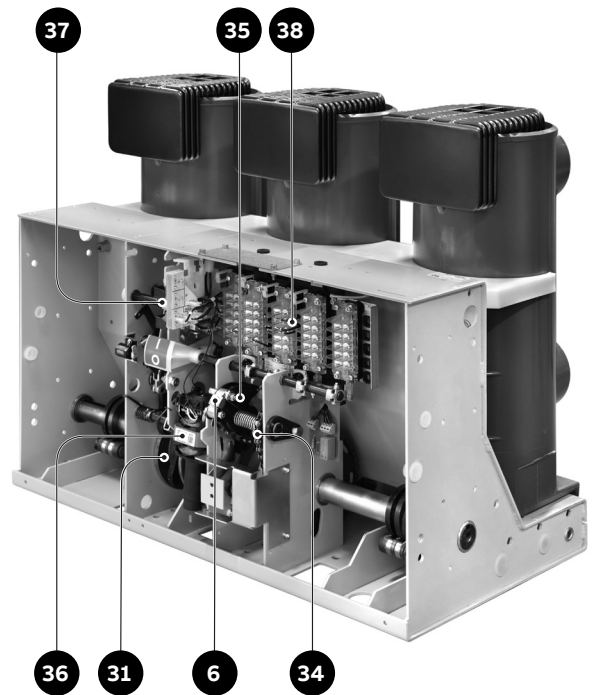

Figure 4/5: View of the stored-energy spring mechanism and auxiliary equipment with the front plate removed
4.5.1 Charging of the spring energy store (Figures 4/1 and 4/4)
4.5.2 Closing procedure (Figures 4/1, 4/3, 4/4 and 4/5)